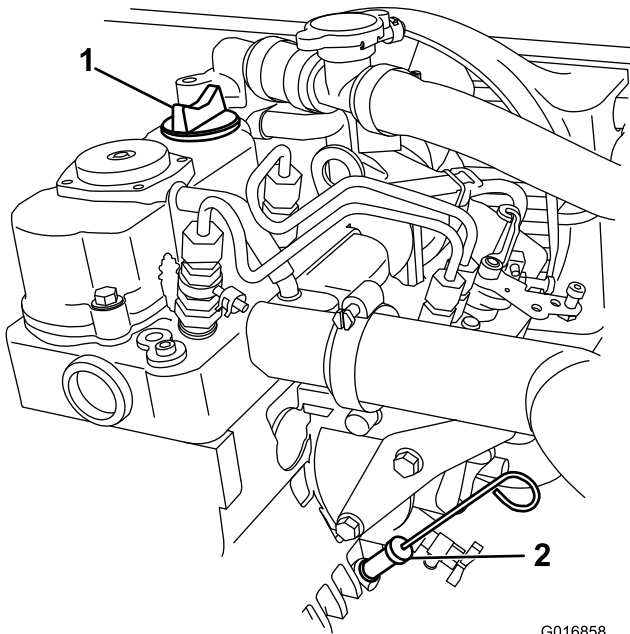

Figure 31
5. Use a rag to clean around the oil dipstick (Figure 31) so that dirt cannot fall into the dipstick tube or oil-filler neck and damage the engine.
7. Slide the dipstick into the dipstick tube and ensure that fully seats (Figure 31).
9. Install the oil dipstick and firmly seat it (Figure 31).